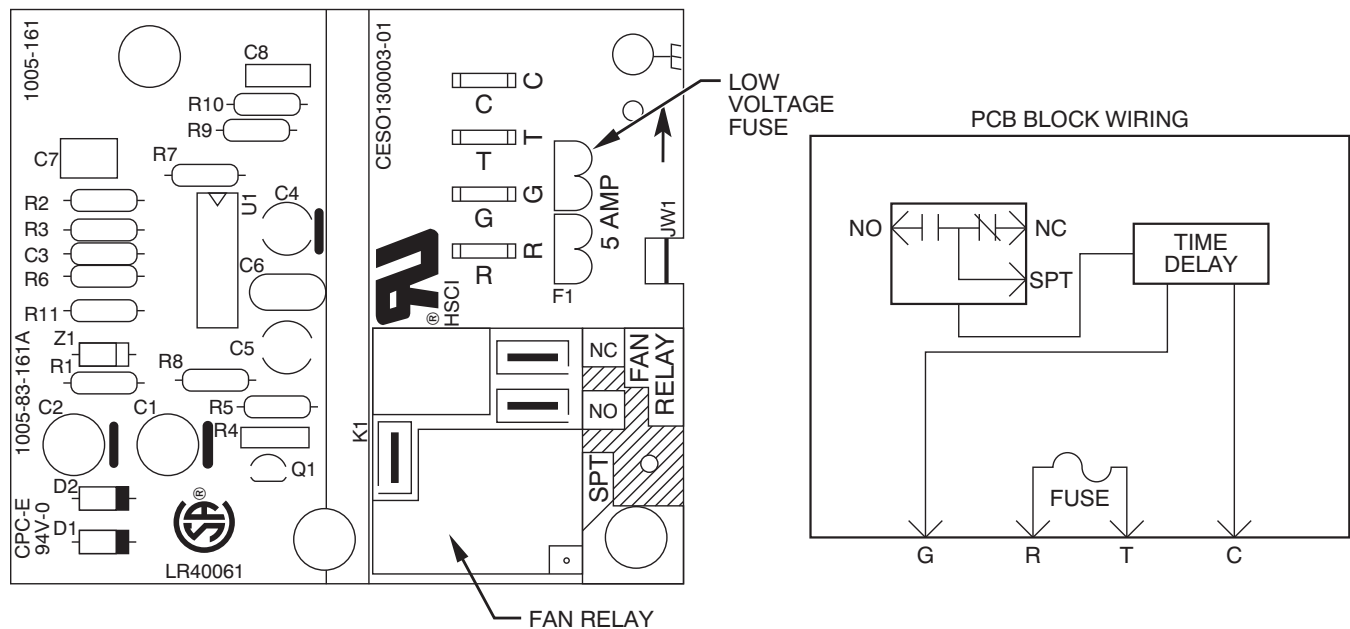

Fig. 1 - Fan Coil Printed Circuit Board (CES013003-00, 01 / HK61EA002)
Layout of the actual PCB is depicted in Fig. 1 and Fig. 2.
Use wiring schematics shown in Fig. 1, and Fig. 2 as a guide in troubleshooting PCB unless otherwise noted.
2. Check output voltage of transformer secondary side R (red) and C (brown). Be sure transformer output is between 18Vac and 30Vac. If transformer output is incorrect and transformer is receiving correct input voltage (208V or 230V), then transformer needs to be replaced with recommended transformer. If no problem exists with transformer secondary, proceed to items 3 and 4.
3. Check low-voltage fuse shown in Fig. 1 or Fig. 2. If fuse is blown, replace it with an identical 5-amp fuse. The transformer cannot supply power to board with fuse blown or loose. If fuse blows when unit has power applied to it, the system most likely has one of the following problems:
1. Check wiring of sequencers/relays as shown in Fig. 1 and Fig. 2. Be sure transformer is not shorting out because thermostat wires are miswired.
2. Check wiring of relays as shown in Fig. 1 And Fig. 2. Be sure low-voltage and high-voltage wiring is correct.